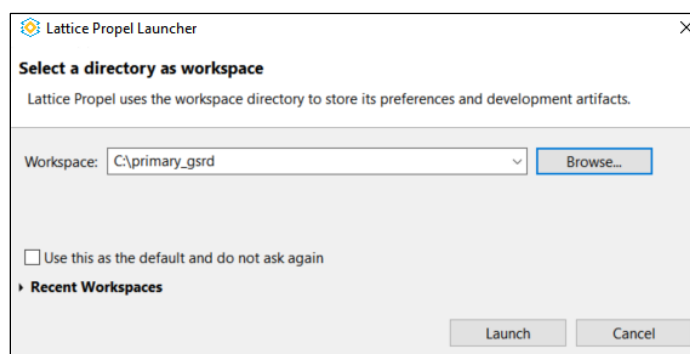

Figure 8.2. Provide Name for Workspace Directory
3. To select the workspace, browse to the created folder by clicking on the **Browse** button as shown in Figure 8.2 and click on **Launch** to launch the workspace.